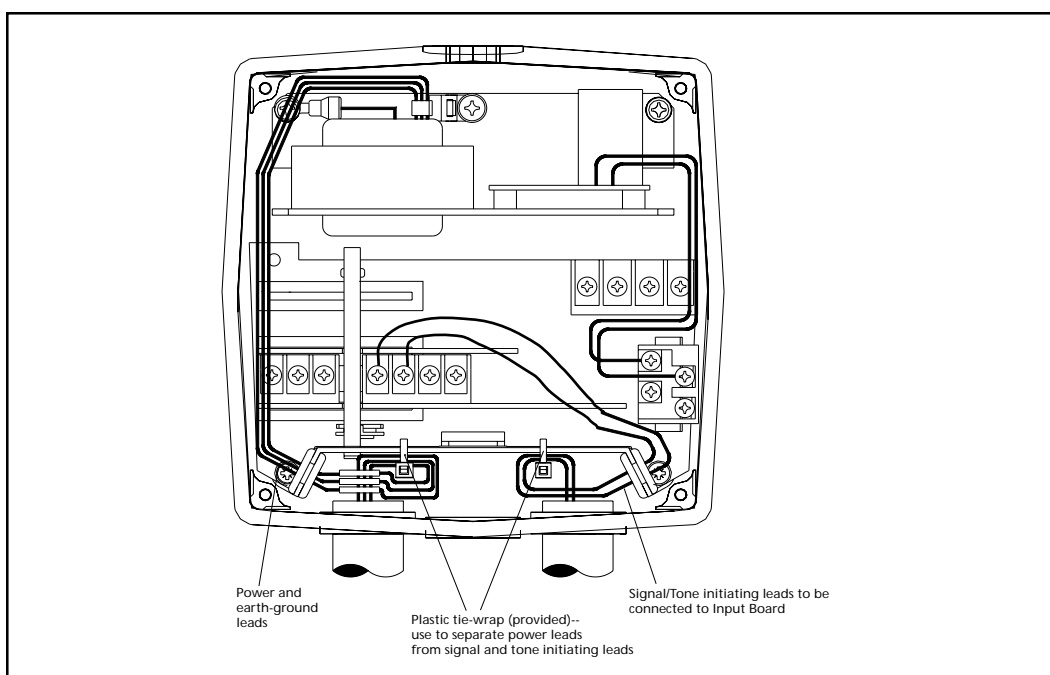

Figure 5. Wiring the Adaptatone
2. Install wires through a knockout hole in the bottom of the box from a raceway that is, with its connections to the 1/2" (12.7 mm) conduit knockout hole, approved for the same degree of protection and enclosure type needed by the application. Use the provided plastic tie-wrap, on the barrier to the electronics, to separate incoming power leads from signal and tone initiating leads, per NEC (Figure 5).
3. Wire as follows referring to Figure 5.